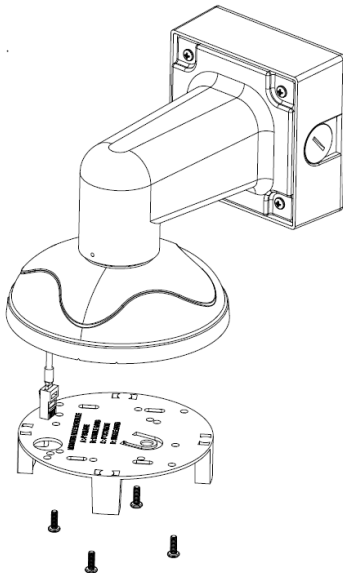

Figure 2
5. Attach the mounting plate to the MD-CAP with the supplied screws as shown in Figure 2.